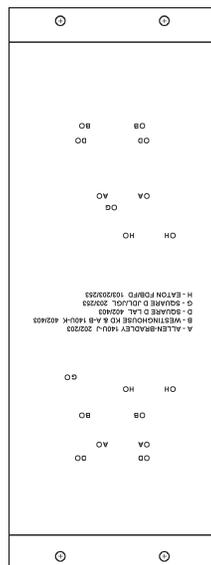

Figure 13
2. Place the Operator (A-B P/N 1494V-M51) on the Breaker Mounting Plate (ENTRON P/N 530026) aligning the mounting holes on the Operator with the “A” designated mounting holes on the Plate (note inverted plate orientation in Figure 13).